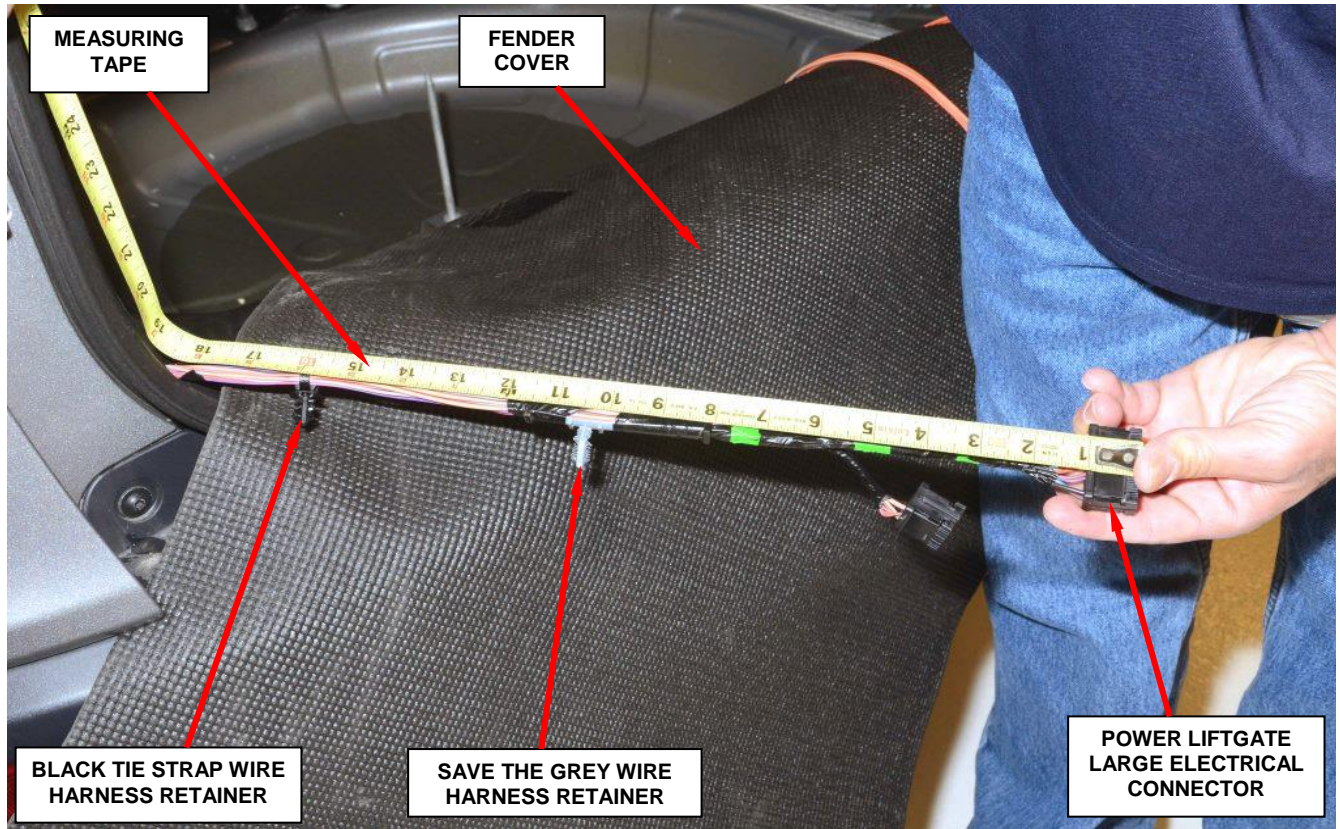

Figure 6 – Wire Harness Retainer Locations
4. Measure the wire harness retainer locations on the wire harness (Figure 6). Write down the measurements for future reference.
6. Remove and save the grey wire harness retainer (Figures 6 and 7).